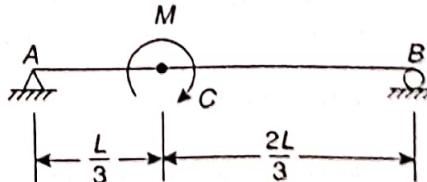

Figure 16.35
1. A beam AB of length L , hinged at end A and roller supported at end B, is subjected to a couple M at point C, such that $AC = L/3$ as shown in Fig. 16.35. If EI is the flexural rigidity of the beam, determine the rotation in beam at point C.